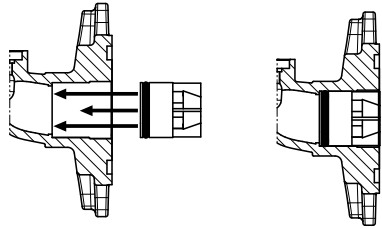

Fig. 1 Check valve installation
- Insert check valve only if required; see fig. 1.